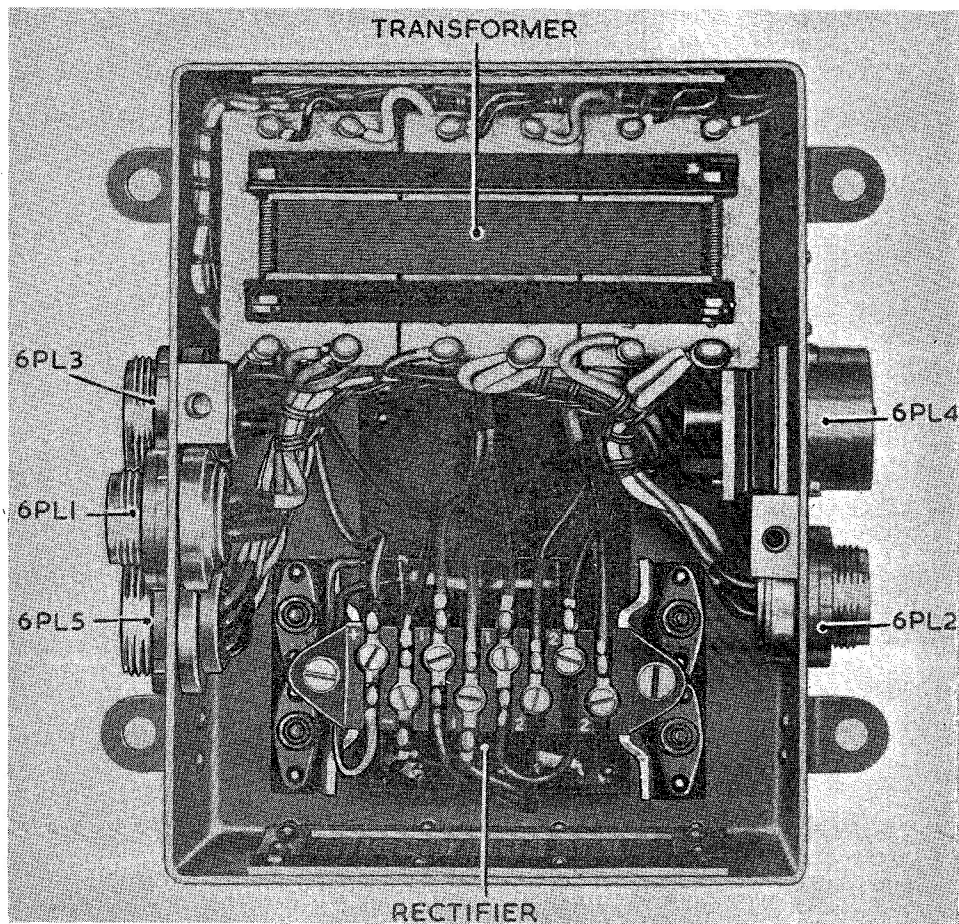

Fig. 2. View of panel (top cover removed)
3. The panel (*fig. 2*) consists of two main components, a current transformer, 6TR1, and a rectifier, 6MR1, both being contained within an aluminium case. Three miniature plugs (two 12 pole and one 3 pole) are mounted in one side of the case for connection to the Type 103 inverter, and the Type 15 control panel. In the opposite side of the case there are two plugs, one 3 pole miniature and one 4 pole standard. The 3 pole plug is for
8. The panel must be mounted only in the vertical position, i.e. with the air vents at the top and bottom. The air vents must not be obstructed by any member closer than one inch. Plug connections are as stated in para. 3 and shown in fig. 2.